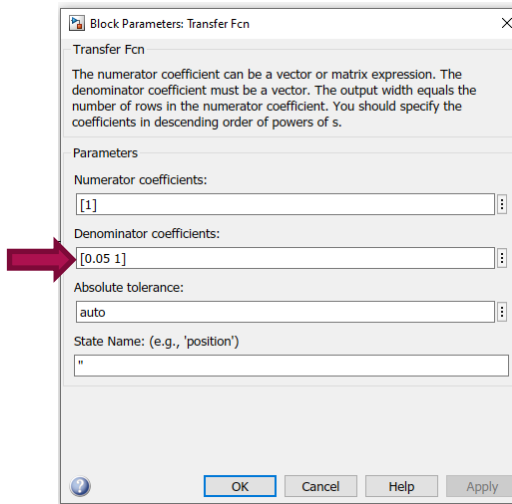
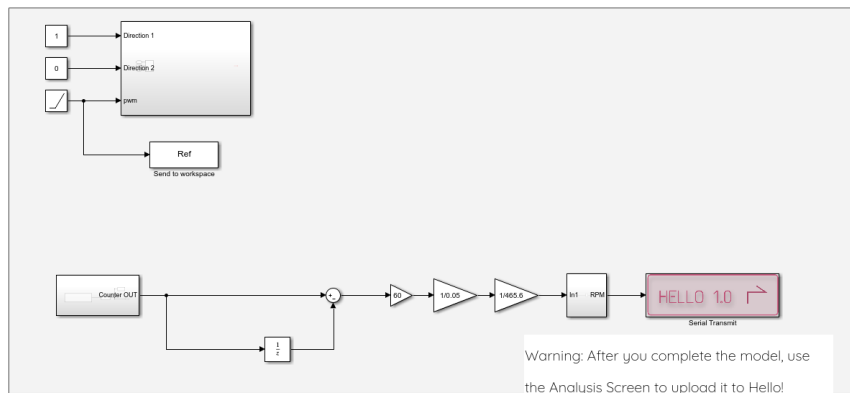

Figure 7
Figure 8
- Change the value 0.05 in Denominator Coefficients like shown in Figure 7
Question 2: Modify the Tau number as shown in figure 7 according to values given in Table 1. Run the block model shown in figure 8 for 10 seconds with ramp slope value of 20. Plot your analysis' for each Tau value and compare the results. Comment on your comparison.